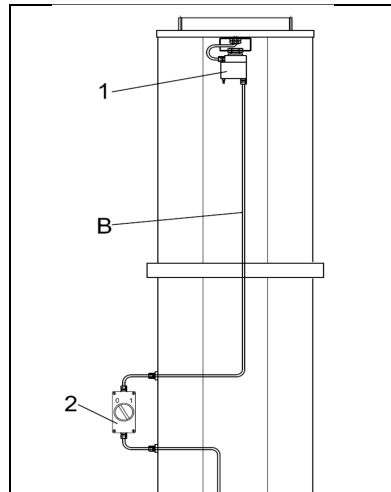

fig.40
2. Connect the longer cable **B** of the rotating collector ring **1** to the switch of line **2**. (fig.40)